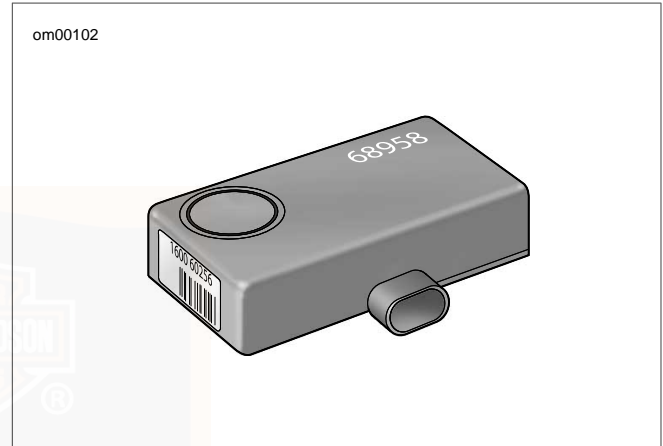

Figure 28. Siren
- See Figure 28. If the siren is armed and the internal siren battery is dead, shorted, disconnected, or has been charging for a period longer than 24 hours, the siren will respond with three chirps on arming instead of two.